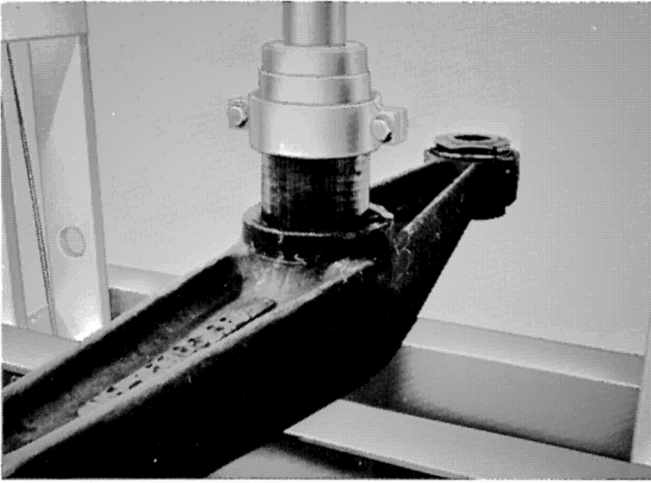

FIGURE 2
2. Position the removal/replacement adapter onto the new bushing. Assemble and wrench tighten the Clamp (Item No. 2) onto the bushing and the removal/replacement adapter as shown in Figure 2 and 3.